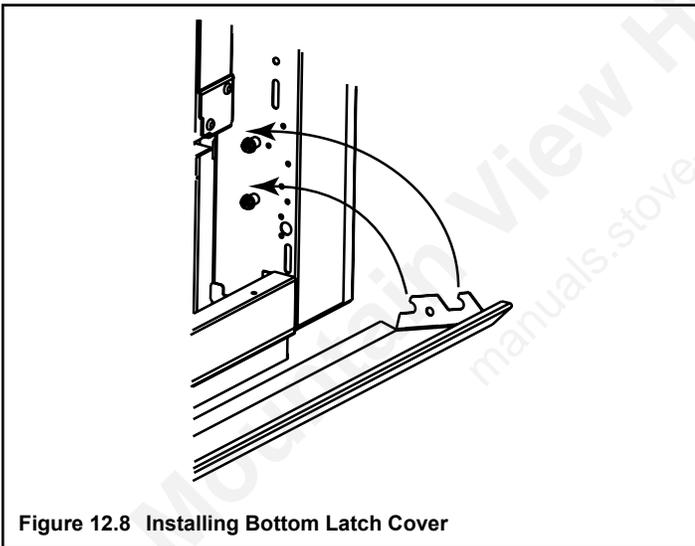

Figure 12.8 Installing Bottom Latch Cover
- Insert bottom latch cover over existing shoulder screws. See Figure 12.8.